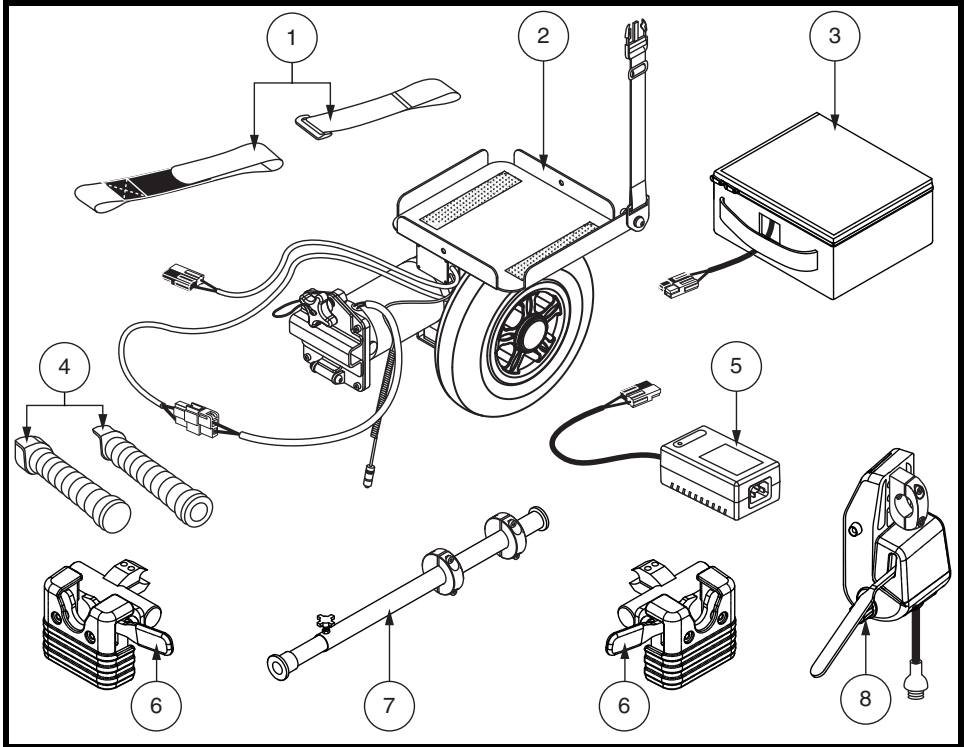

Figure 1. Power Glide Components (One-wheel Model Shown)
The Power Glide consists of (see figure 1):
1. Ensure that you have all of the components that are shown in **figure 1**.